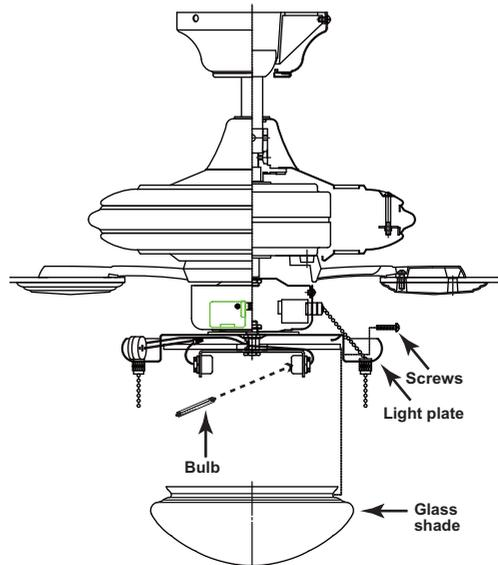

Figure 20
2. Mount the glass shade to the light fixture by unscrewing partway the thumb screws on the glass holder, insert the glass, then gently tighten the thumb screws by hand evenly to the glass. **DO NOT OVER TIGHTEN.** (Fig. 20)